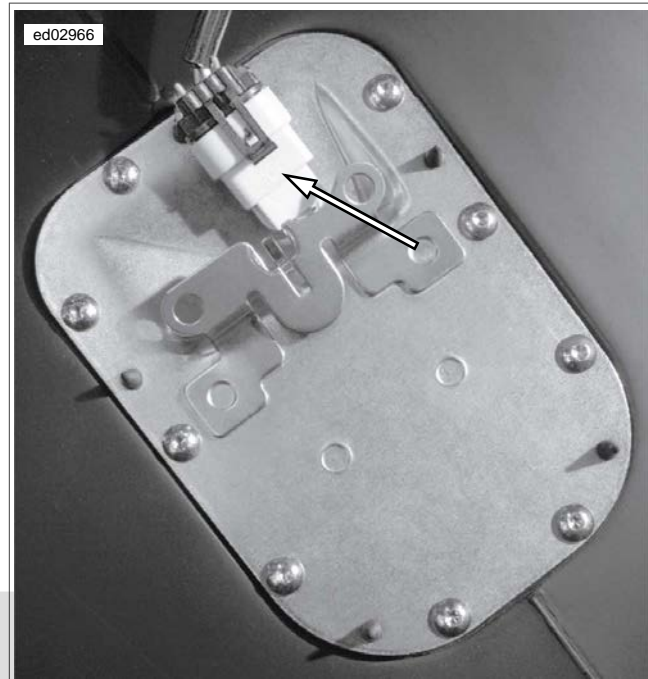

Figure 7-76. Fuel Pump Connector [141] (Typical)
6. See Figure 7-76. Disconnect fuel pump/sender connector [141].